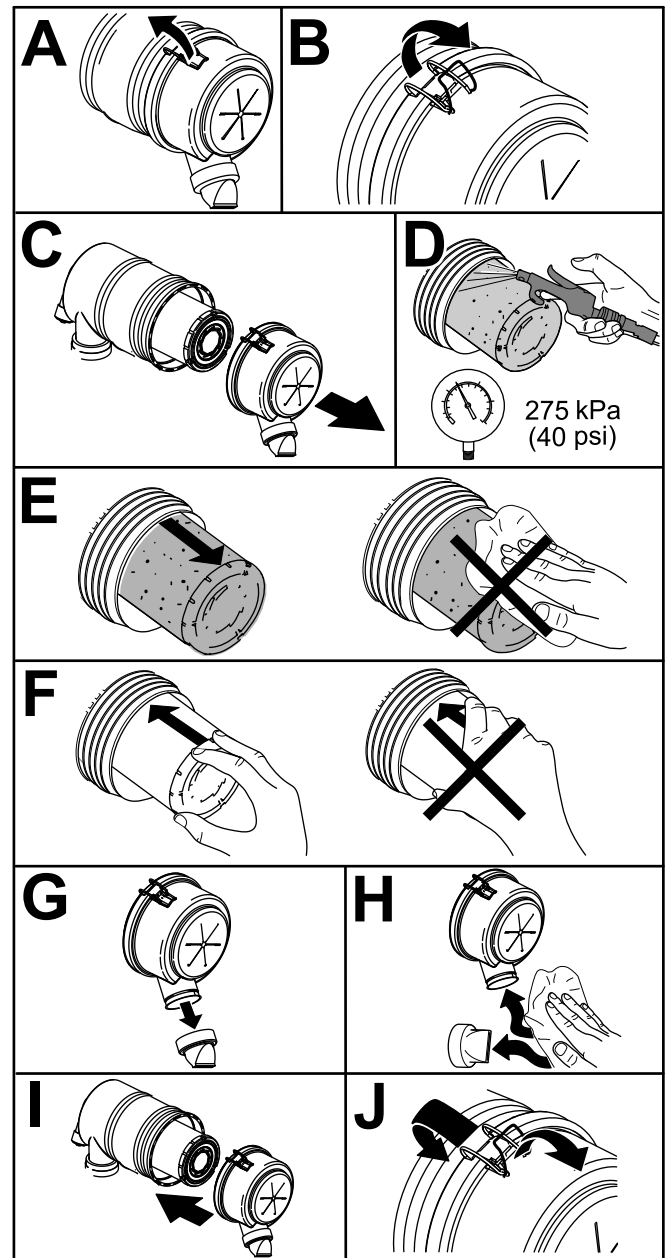

Figure 43
1. Replace the primary air-cleaner element (Figure 43).